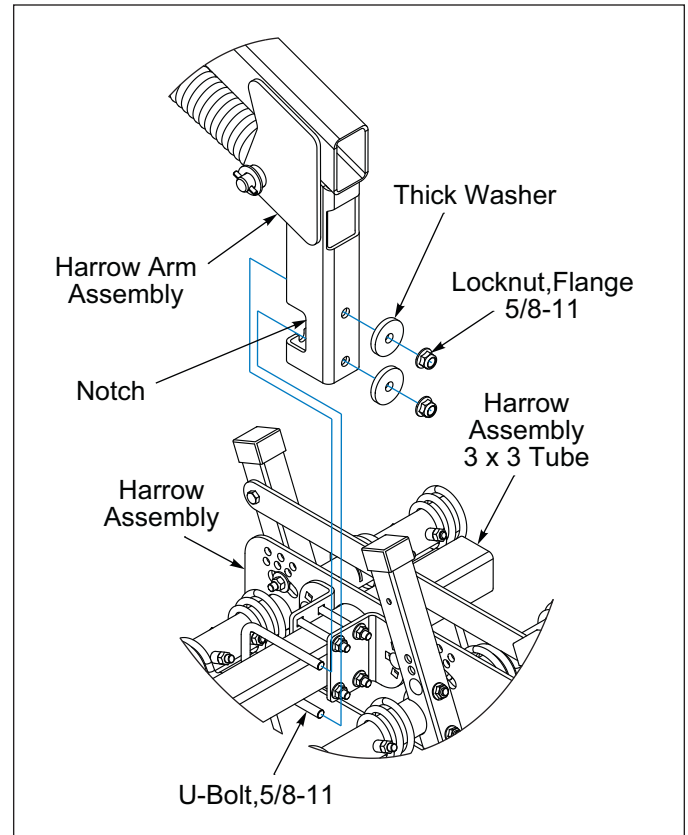

Figure 2-89: Harrow Assembly to Harrow Arm
3. Attach the Harrow Assemblies to the Harrow Arm Assemblies by placing the Harrow Assembly 3 x 3 tube into the Arm Notch. Position 5/8-11 U-Bolt onto 3 x 3 tube and through the Harrow Arm Assembly. Secure with Thick Washers and Flange Locknuts. See **Figure 2-89**.